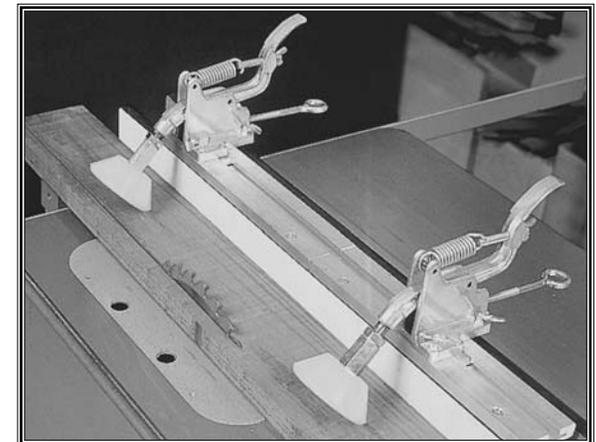

Figure 1. Typical Board Buddy application.
BOARD BUDDIES® are made from die-cast aluminum and feature non-marring yellow neoprene rubber wheels. Because the wheels turn clockwise only, they function as anti-kickback and holddown devices. You can mount these to fences that are 3" (76.2mm) to 1½" (38.1mm) high x 1" (25.4mm) or wider. Each Board Buddy consists of a mounting bracket, a main body, and a roller. The main body has a pivot arm which accepts the roller, a housing which contains the pivot point and a roller pressure spring. See **Figure 1**.
To install your BOARD BUDDIES® see **Figures 1 and 2**, and do these steps:
3. Position the mounting bracket on the auxiliary fence so it does not protrude into the path of the stock. See **Figures 1 and 2**.
4. Position the rollers so they are not closer than 1/2" (12.7 mm) to the front and rear of the saw blade. See **Figure 1**.
BOARD BUDDIES® help prevent kickback by maintaining pressure against the stock with clockwise rotating rollers. See **Figures 1 and 2**.